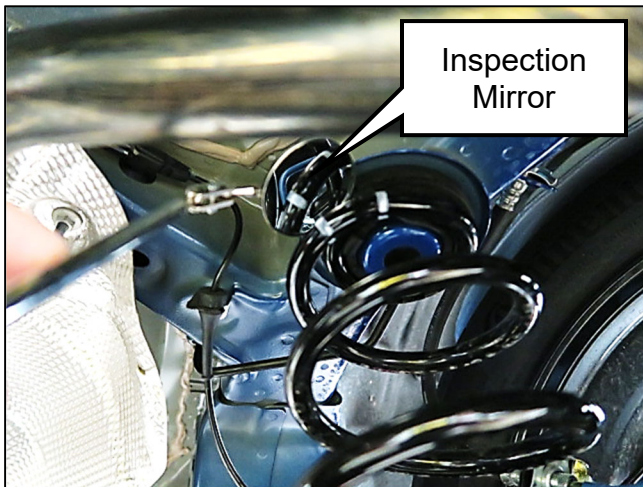

Figure 3
4. If an indentation is felt, use an inspection mirror to visually inspect the area identified in Step 3. (Figure 3)